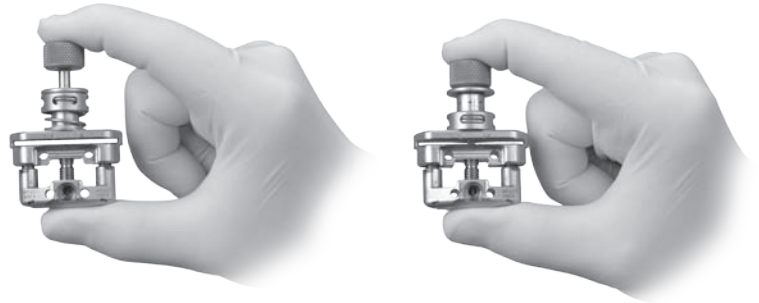
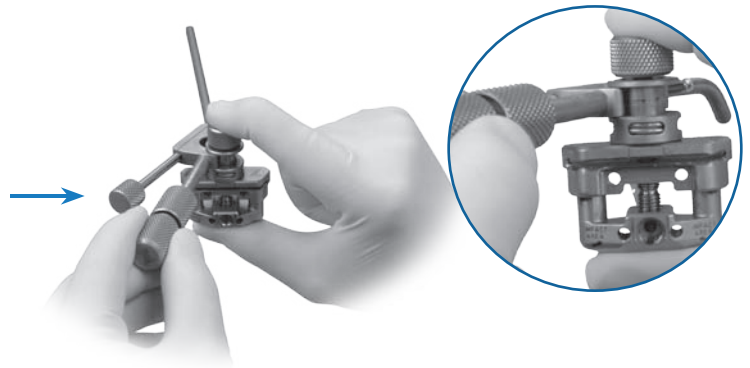

Fig.5
Fig.6
- Push down and hold adjustment knob on the IM Anterior Cut Guide (**Fig.5**) while sliding the Telescoping Boom onto the IM guide collar (**Fig.6**). Boom may be inserted from either medial or lateral side.